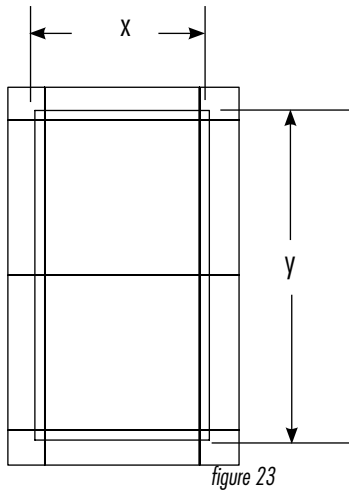

figure 23
2. Remove that panel and measure the backside of the shampoo shelf. Measure and mark the rectangle that will need to be cut out using a straight edge (fig. 23).